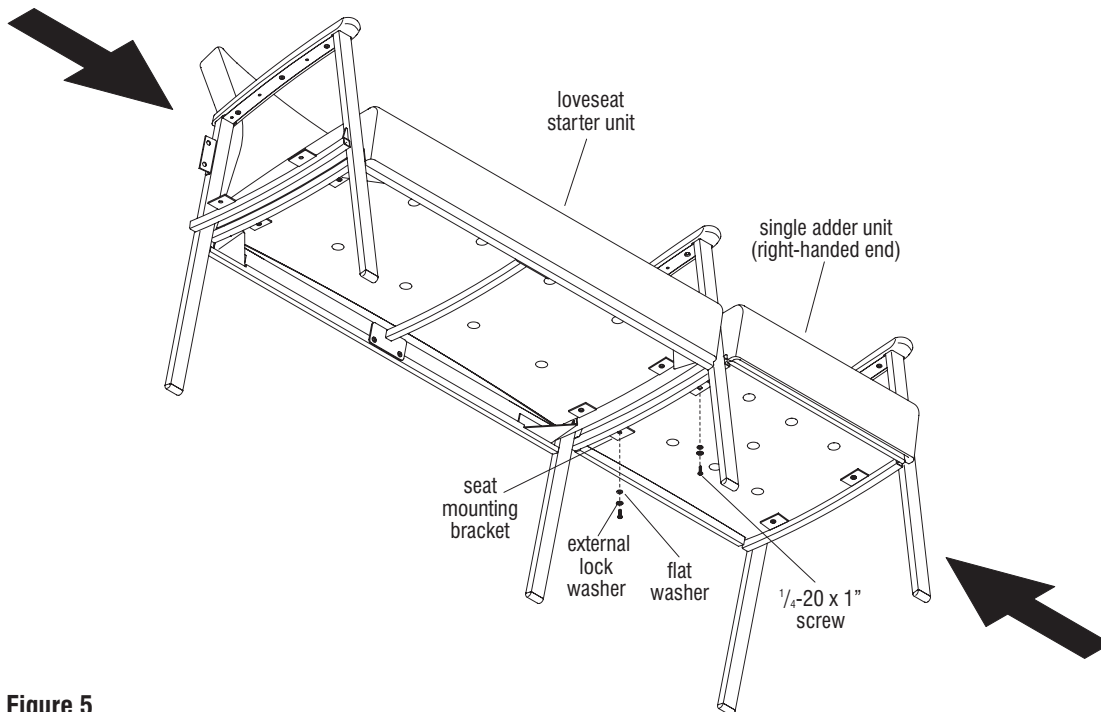

Figure 5
9. With the assistance of a second person, apply pressure to both ends of the seating assembly, closing any gaps between the starter and adder units. Align the seat mounting brackets on the starter with the threaded T-Nut holes on the underside of the adder and secure using two  $\frac{1}{4}$ -20 x 1" screws with external lock and flat washers. Re-dress the upholstery if disturbed, smooth any wrinkles and close up the Velcro seams (Figure 5).